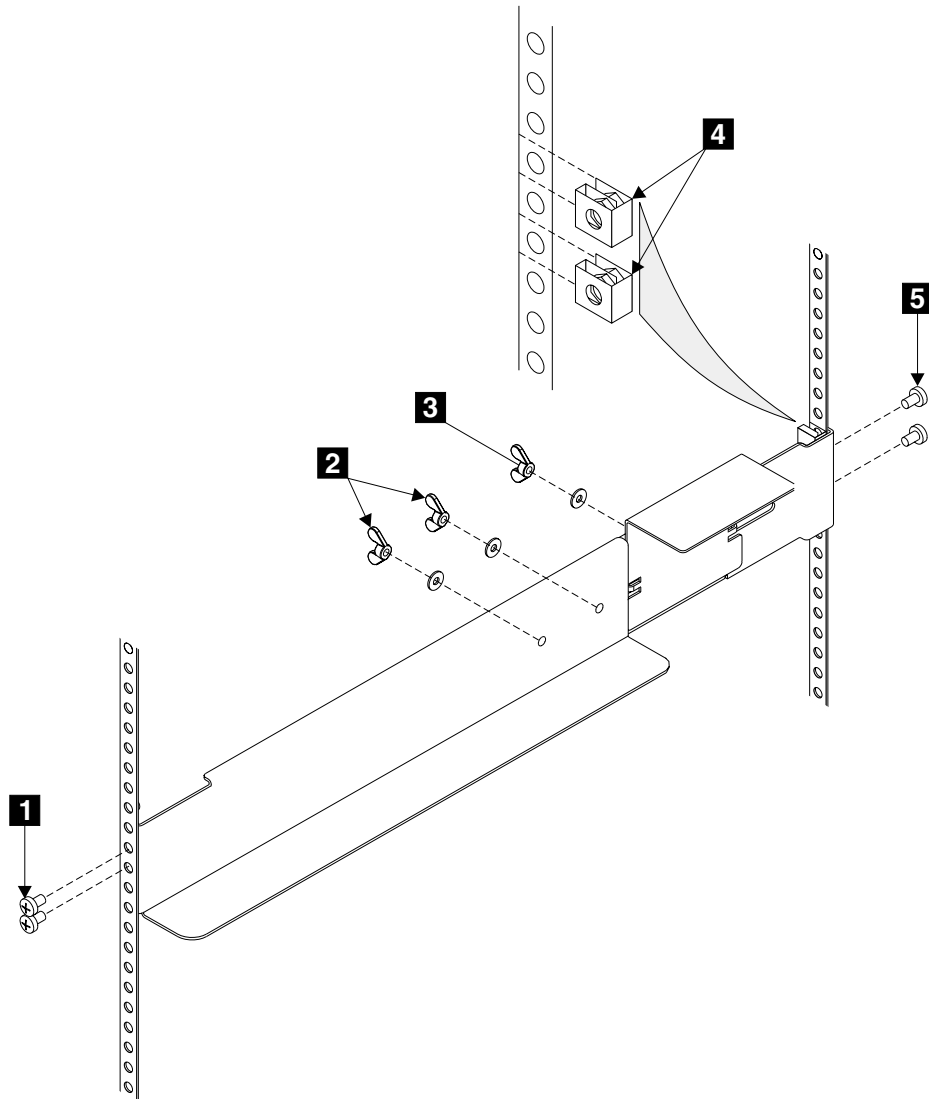

Figure 117. Removing support rails for a uninterruptible power supply from the rack
1. Refer to Figure 117 on page 166.